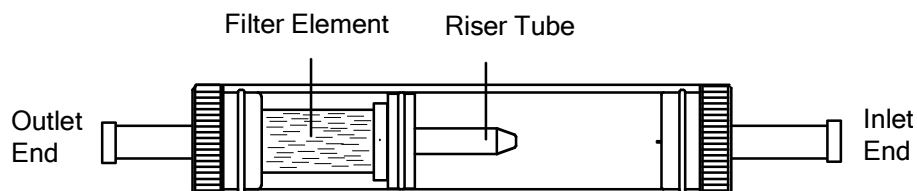

Figure 5-2. Water Trap / Filter Assembly
1. Pull off the end-cap from the inlet end of the Water Trap / Filter Assembly (see Figure 5-2).
1. Pull off the end-cap from the outlet end of the Water Trap / Filter Assembly (see Figure 5-2).